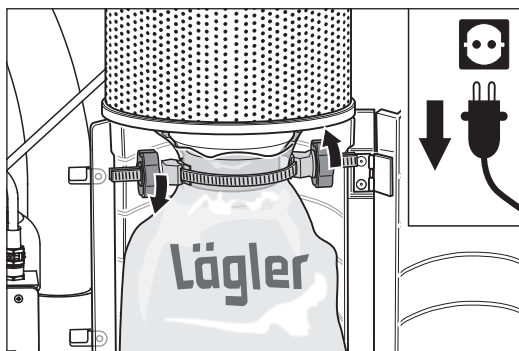

Fig. 49 Fasten the MultiClip by turning the nuts.
- 9 Fasten the MultiClip by turning the nuts (fig. 49).